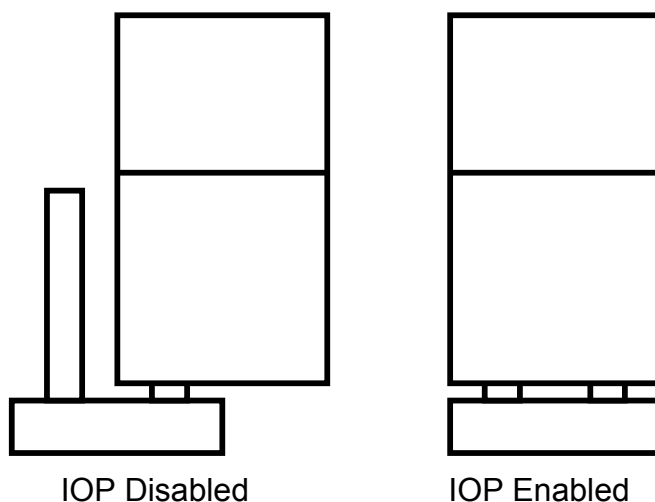

Figure 15—IOP Enable Jumper Positions
3. . . To enable or disable IOP hub capability, position the IOP enable jumper as shown in Figure 15.